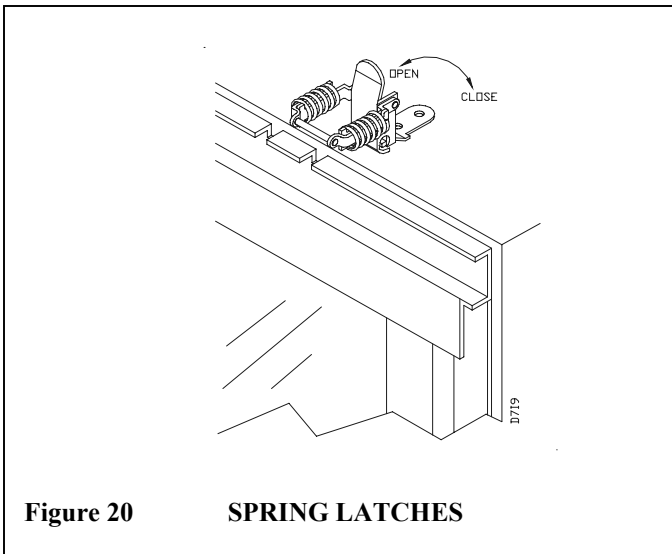

Figure 20 SPRING LATCHES
3. To open the glass door, open the pairs of latches located on the top and bottom of the firebox (refer to figure 20). Use caution when opening these latches.
- Undo the four spring door latches (see figure 20).